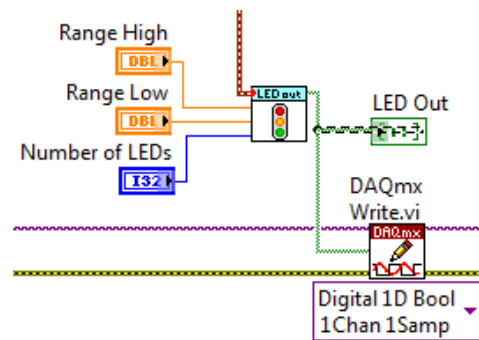

Figure 39. Delete the wire between the LED subVI and the LED indicator.
27. If you watch the front panel and the LEDs, they should be reversed in how they are displayed. The physical LEDs and the front panel indicator can be matched in code easily. To swap the order of the front panel indicator, start by deleting the wire between the LED subVI and the LED indicator on the block diagram. Click once on the wire shown in Figure 39 and press delete.